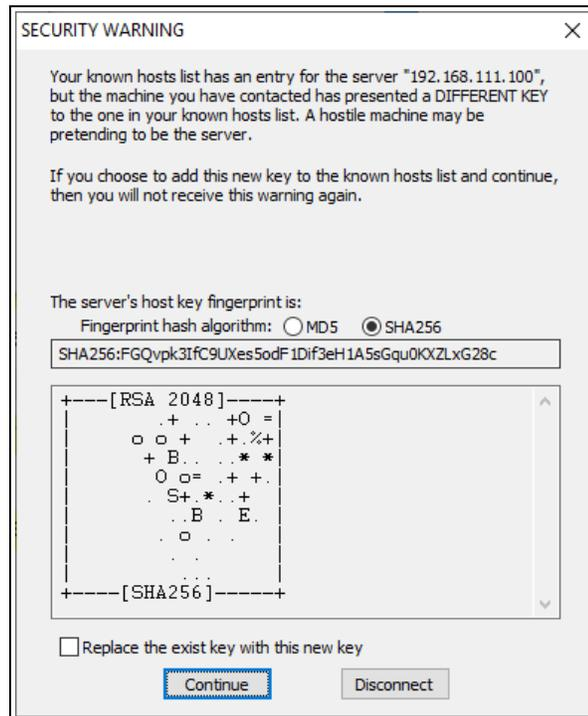

Figure 114: Security Warning dialog box
1. Open a terminal emulator application (e.g., **Tera Term** <http://tssh2.osdn.jp/>). The **Security Warning** dialog box opens. Figure 114